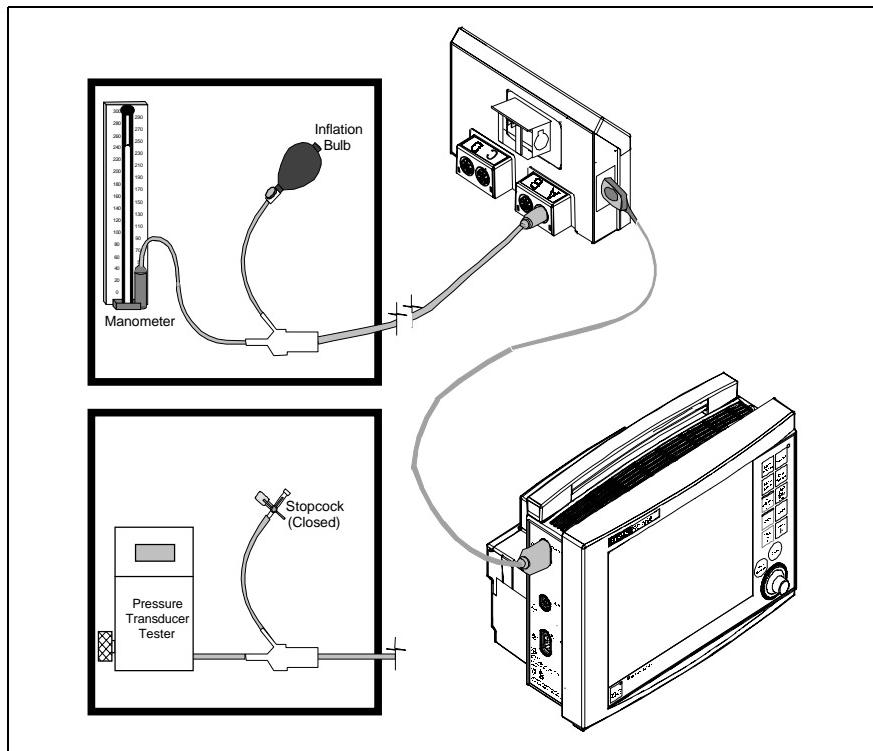

Figure 4-2 IBP Functional Verification Test Setup for HemoMed Pod
Refer to Figure 4-2 for test setup. Invasive blood pressure and cardiac output functions of HEMO2/4 PODs are incorporated in the HemoMed Pod. A single cable connects the Pod to the HemoMed 1 input on the left side of the SC 7000 or SC 9000XL. Pressure labels for HemoMed Pod channels are set in the monitor.
- 2) Plug cable from HemoMed Pod output into HemoMed 1 connector on SC 7000 or SC 9000XL monitor. See Figure 4-2.